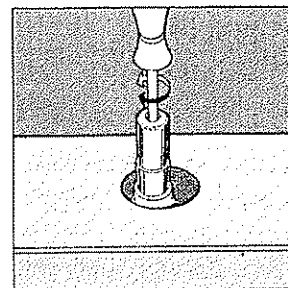

fig.17
- Remove the tap knob and turn the adjusting screw, situated inside of the tap stem (fig.17), using a screwdriver (loosening the screw increases the height of the flame, tightening decreases it).